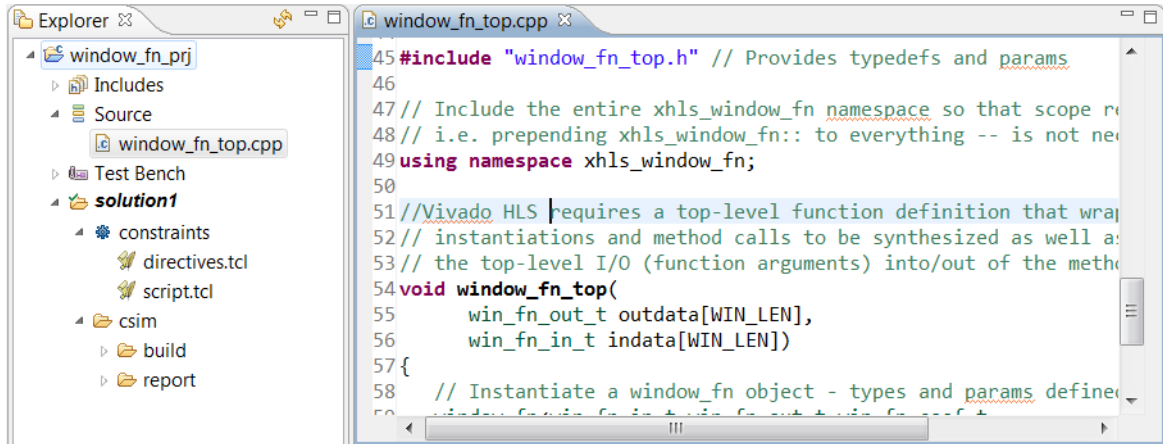

Figure 5-4: C Code for C Validation Lab 3
1. Open the **Source** folder in the Explorer pane and double-click `window_fn_top.cpp` to open the code as shown in Figure 5-4.